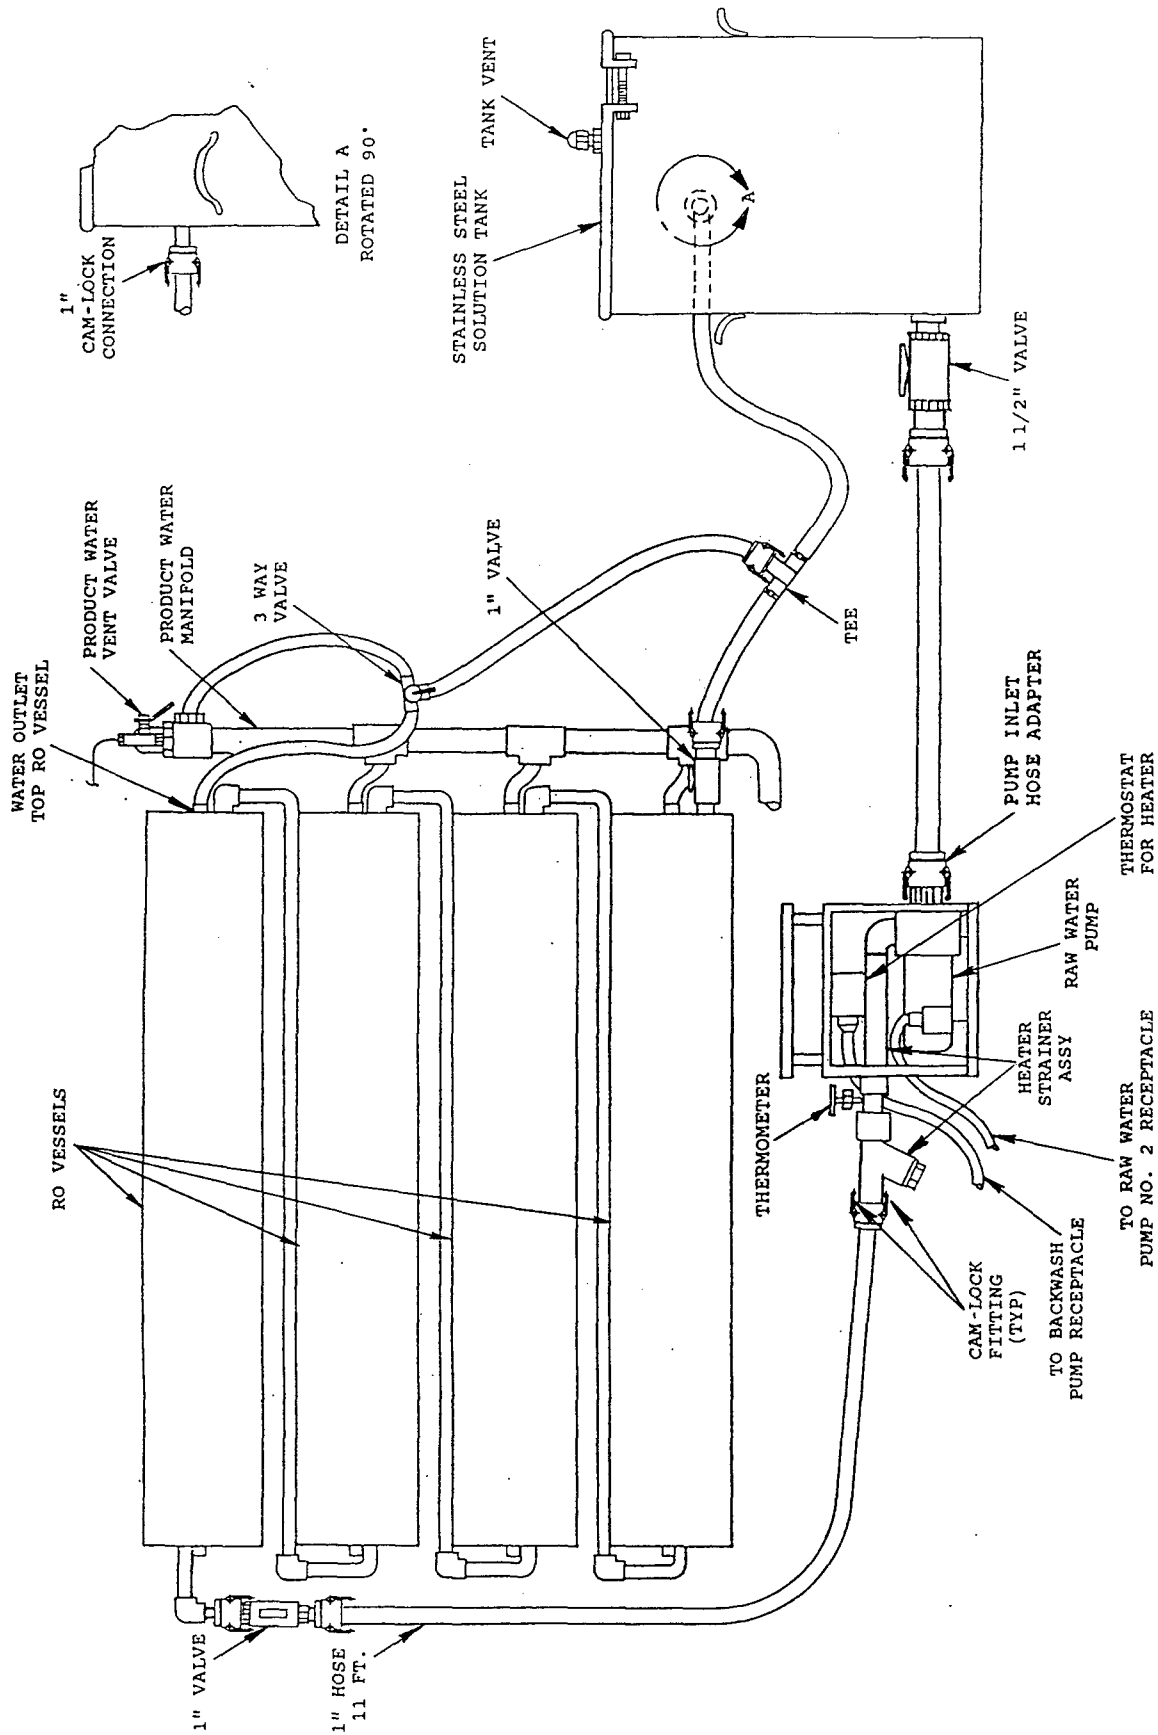

Figure 1-1. Reverse Osmosis Element Cleaning and Preservation System.
- 1-2.1 Physical Description. The basic set-up of the ROECPS and its attachment to the 600 gph ROWPU is shown in figure 1-1. This configuration is used for both the cleaning and preservation of the reverse osmosis elements. It allows the cleaning and preservation chemicals to bypass all pretreatment components and high pressure piping of the ROWPU in order to minimize the quantities of cleaning and preservative solutions used. This also reduces the potential for corrosion of the copper/nickel piping on certain versions of the 600 gph ROWPU. The ROECPS uses one of the ROWPU's raw water pumps to circulate the cleaning and preservative solutions through the elements. Power for the electrical heater that heats the solutions
<p>RO vessel bypass assembly (not shown in figure 1-1).</p>	<p>Two 1 inch victaulic by quick disconnect fittings and 12 ft. section of 1 inch tubing with quick disconnect fittings. Connects between elbowed victaulics at inlet and outlet of top and bottom RO vessels. Allows flushing of complete ROWPU with freshwater without entering RO vessels.</p>
- a. Position the solution tank at the left rear corner of the ROWPU approximately 2 to 3 feet from the ROWPU, as depicted in figure 1-1.
- b. Position the raw water pump approximately 3 feet from the solution tank. The suction of the pump should be facing the 1-1/2 inch fitting located at the bottom of the solution tank. Rotate the elbow at the discharge of the pump so it points toward the right side of the ROWPU, see figure 1-1.